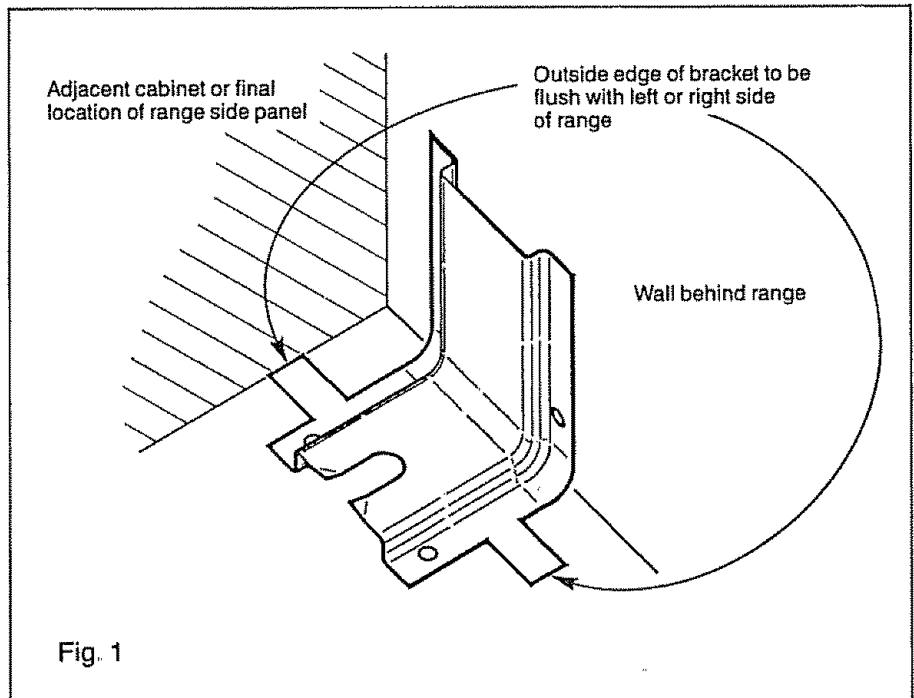

Fig. 1
2. If the bracket side of the range is adjacent to a cabinet, place the bracket against back wall and cabinet as shown in figure 1.
If there is no adjacent cabinet, determine where the location of the range side (painted outside panel) will be. Place the bracket with its outside edge at this location and against back wall. See figure 1.
- See Figures 1 and 2 for all rough-in and spacing dimensions. These dimensions must be met for safe use of your range. The location of the electrical outlet may be changed as needed, but electricity to the range can be disconnected at the outlet without moving the range if the outlet is in the suggested location (remove lower drawer).